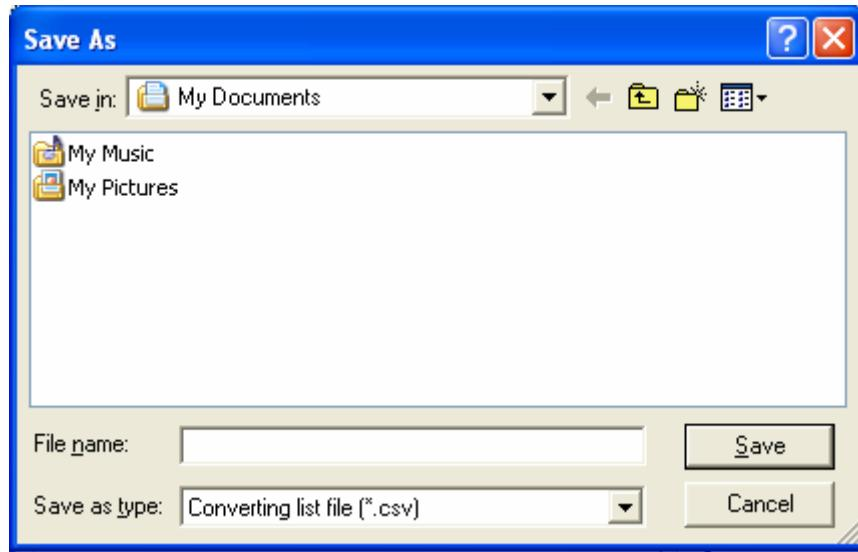

Fig. 5-5 Conversion list file saving dialogue box
- (6) Click the **Browse** Button; designate the name and path of conversion list file.(Fig.5-5)